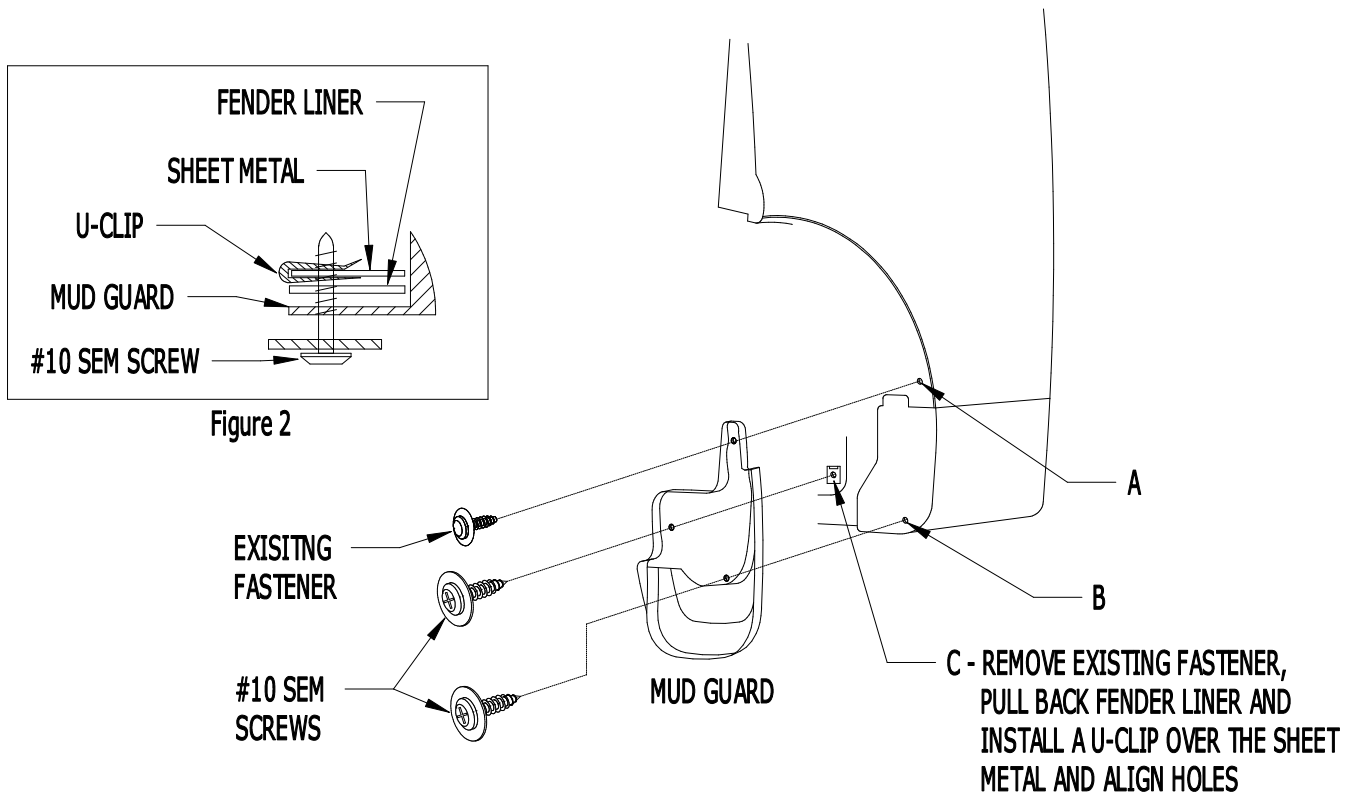

Figure 1
1. Remove the existing fasteners from locations A and C (Figure 1).
2. Pull back fender liner and install a U-Clip at location C and align U-Clip hole with sheet metal hole (Figure 1 and 2).
3. Attach the Mud Guard at location A with the existing factory fastener. Check the Mud Guard fit and appearance before tightening (see Figure 1).